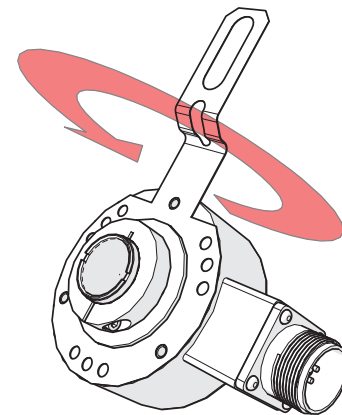

Figure 4: Flip Encoder Tether
5. Flip the encoder tether. See Figure 4.